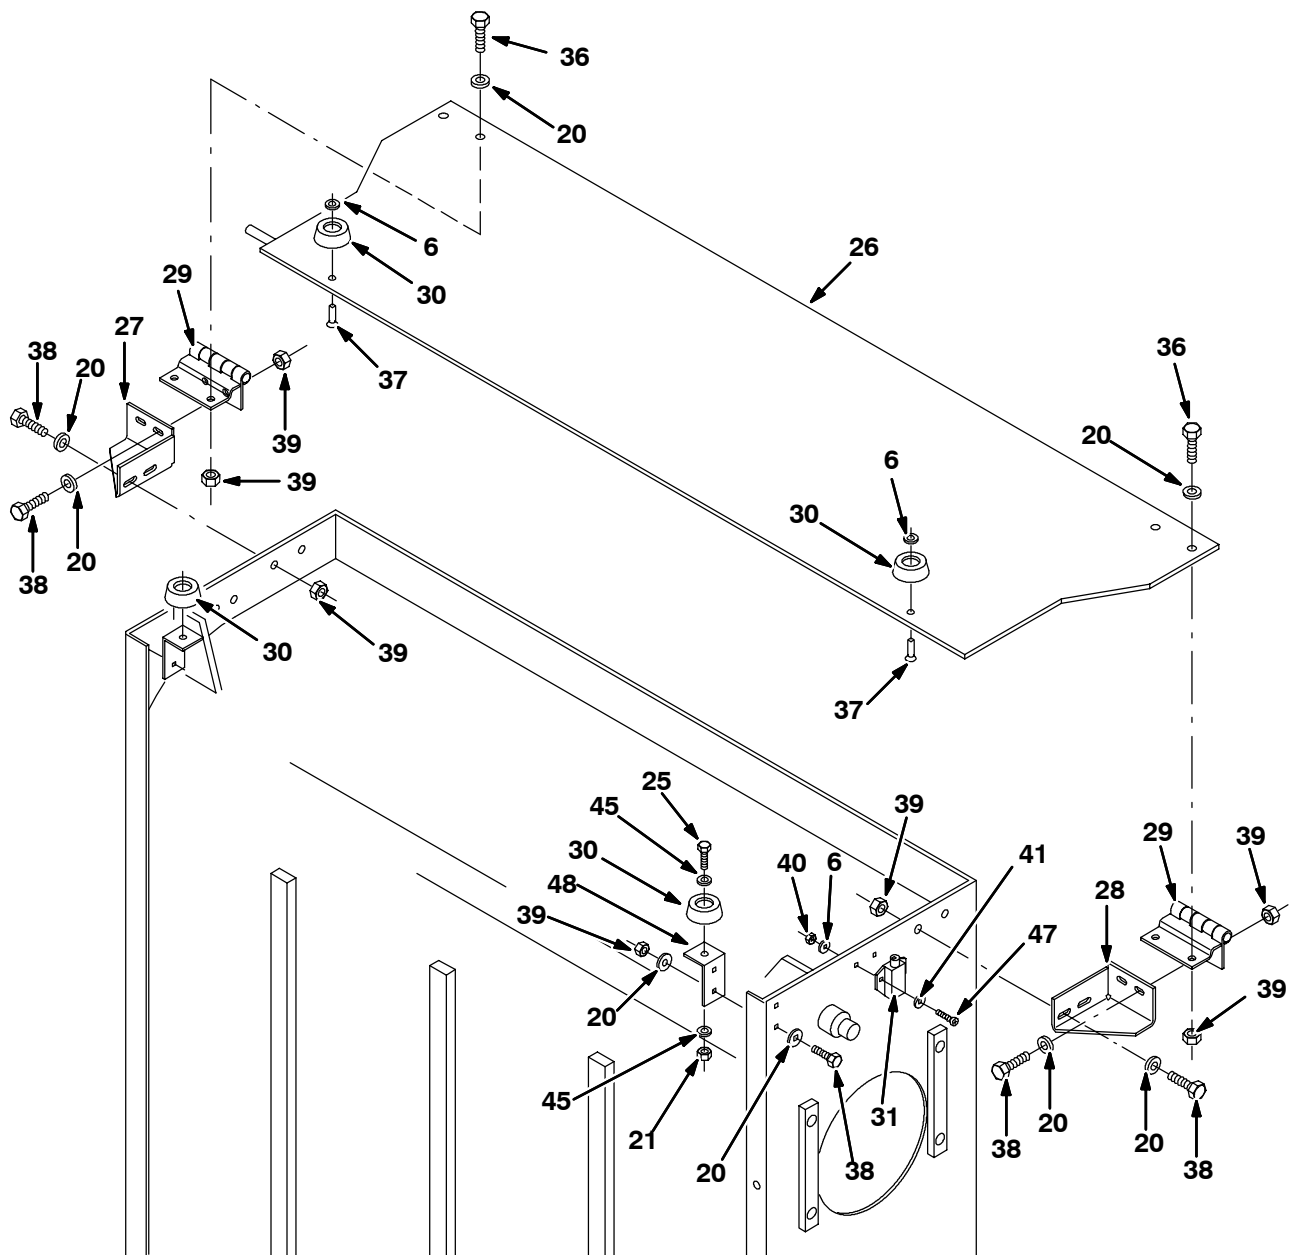

FIG. 1 - Conveyor Door Assembly
1. Use four hex screws (38), flat washers (20), and lock nuts (39) to install the RH (27) and LH (28) hinge mounting brackets to the top front edge of the conveyor assembly. Loosely tighten the RH (27) and LH (28) hinge mounting brackets into place. (Refer to Fig. 1)
2. Use four hex screws (38), flat washers (20), and lock nuts (39) to mount a hinge (29) to front of each bracket installed in the previous step. Loosely tighten hinges (29) into place. (Refer to Fig. 1)
3. Use four hex screws (36), flat washers (20), and lock nuts (39) to mount the conveyor door (26) onto the hinges (29). Loosely tighten the conveyor door (26) into place. (Refer to Fig. 1)
4. Align the edge of the conveyor door (26) with the front edge of the conveyor assembly. Tighten the hardware from previous three steps to 18-24 Nm (15-20 ft lb). (Refer to Fig. 1)
5. Use four hex screws (38), eight flat washers (20), and four lock nuts (39) to mount the brackets (48) onto the conveyor assembly. Loosely tighten the brackets (48) into place. (Refer to Fig. 1)
6. Use two rivets (37) and washers (6) to install two neoprene bumpers (30) onto the conveyor door (26). (Refer to Fig. 1)
7. Use two hex screws (25), four flat washers (45), and two lock nuts (21) to install two neoprene bumpers (30) onto the brackets (48) installed in Step 5. (Refer to Fig. 1)
8. Install the micro switch (31) to the right side of the conveyor assembly. Hand tighten the two screws (47), lock washers (41), lock washers (6), and lock nuts (40). (Refer to Fig. 1)
10. Connect the 13BY/BLK and 140/BLU wires to the "NC" (normally closed) terminal on the micro switch (31).
11. Swing the conveyor door (26) up over the conveyor.
12. Move the micro switch (31) up until it touches the conveyor door (26). Listen for the click when these items touch.
13. Tighten the two screws (47) and lock nuts (40) installed in Step 8.